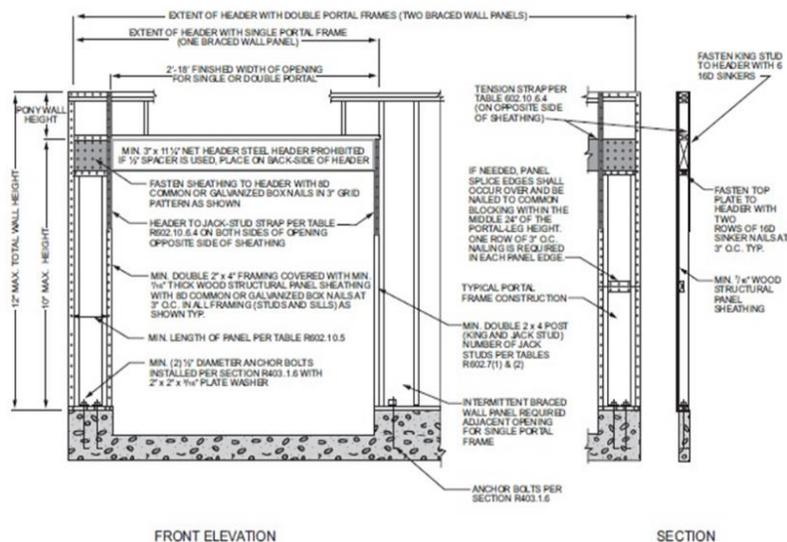

FIGURE R602.10.6.3. METHOD PFG—PORTAL FRAME AT GARAGE DOOR OPENINGS IN SEISMIC DESIGN CATEGORIES A, B AND C
- Continuously sheathed portal frame braced wall panels shall be constructed in accordance with Figure R602.10.6.3 and Table R602.10.6.3. The number of continuously sheathed portal frame panels in a single braced wall line shall not exceed four.